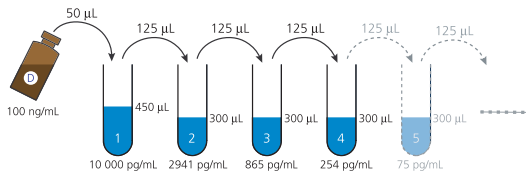

FIGURE 3.
4. Complete the 3.4-fold dilution series by transferring 125 μL from tube 2 to tube 3 and vortex. Repeat this step for all tubes 3-10 (see Fig. 3).